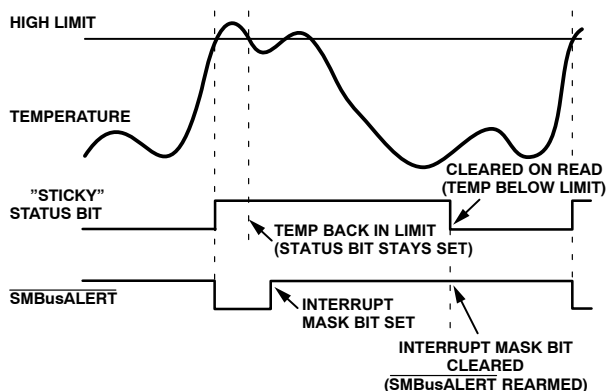

Figure 31. Handling  $\overline{\text{SMBusALERT}}$
7. Periodically poll the status register. If the interrupt status bit clears, reset the corresponding interrupt mask bit to 0. The  $\overline{\text{SMBusALERT}}$  output and status bits then behave as shown in Figure 31.